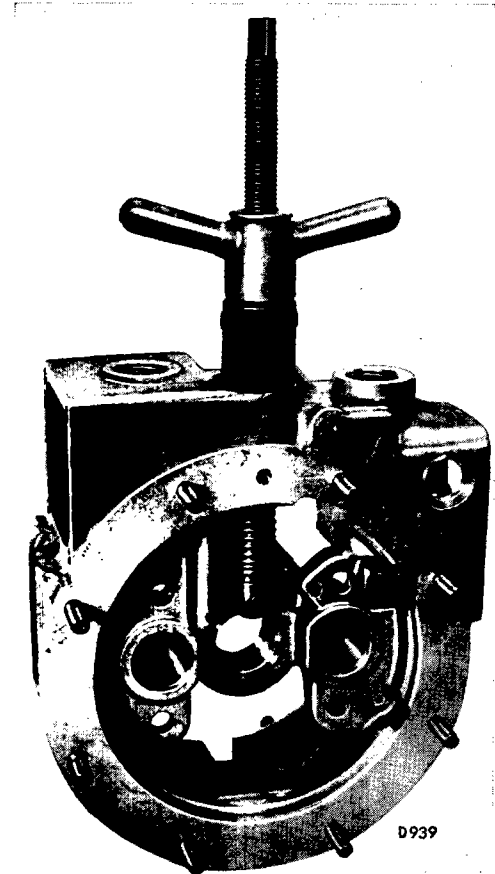

Fig. 15.
Remove the pump plug (42), non-return valve spring (40) and ball (39), and the pump locating screw (33), see note above. Unscrew the non-return valve body (38) using tool L.213. Using tools L.183A, L.183A2 and adaptor L.205, extract the pump body as follows (Fig. 15):—